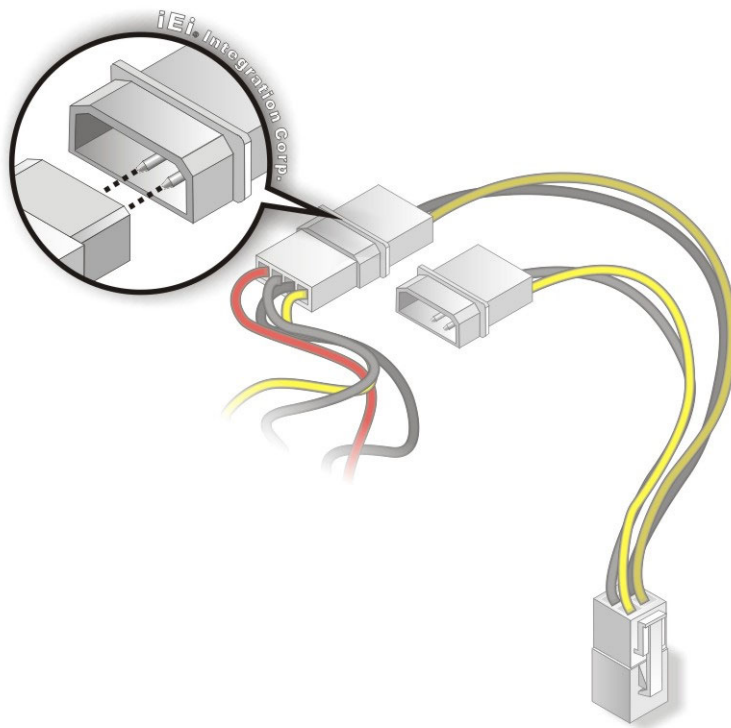

Figure 4-15: Connect Power Cable to Power Supply
Step 3: Connect Power Cable to Power Supply. Connect one of the 4-pin (1x4) Molex type power cable connectors to an AT/ATX power supply. See Figure 4-15.